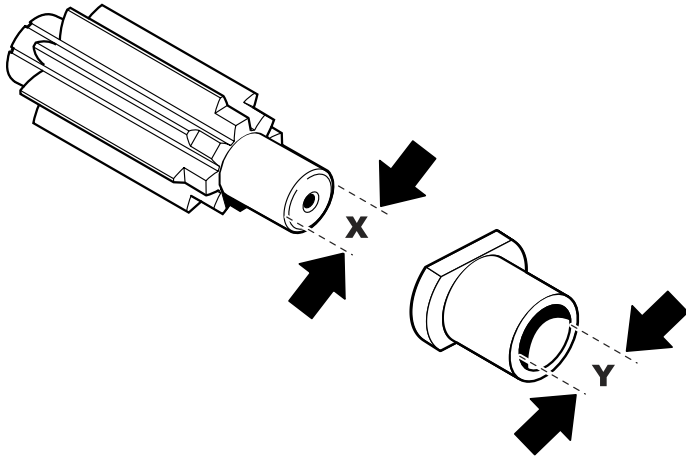

Fig. 12, Final Pinion Shaft and "Loose" Bushing Clearance
1. Using calipers (digital recommended) measure the O. D. (X) of the Final Pinion Shaft. (Fig. 12)
2. Measure the I. D. (Y) of the "loose" Bushing. (Fig. 12)